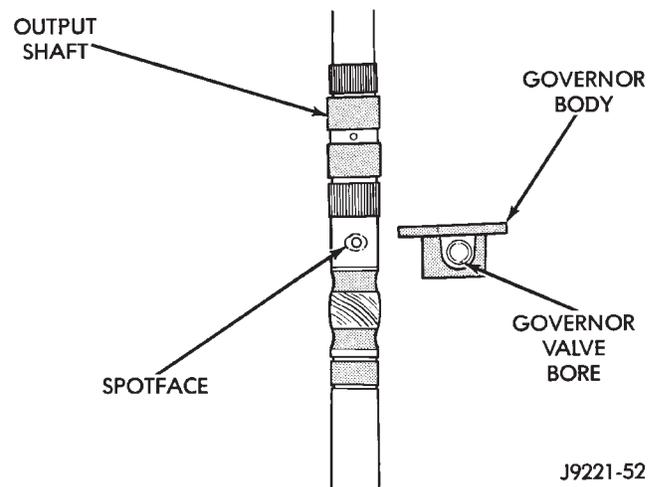

Fig. 136 Governor Valve And Output Shaft Spotface Alignment
- (1) Lubricate governor components and park gear seal rings with transmission fluid.
- (2) Install governor filter in park gear and install governor body on gear. Align governor body on gear using marks made at disassembly.
- (3) Install new seal rings on hub of park gear if necessary. Be sure ring (or rings) with hooked ends are properly connected.
- (4) Install governor weight assembly in governor body. Be sure governor weight snap rings are securely seated.
- (5) Align and install governor/park gear assembly on output shaft as follows:
- (a) **Note that output shaft in current transmission is spotfaced for governor valve end clearance (Fig. 136). Shaft must be indexed so that small end of governor valve will seat in this spotface. Install governor body and park as follows to ensure proper alignment and operation.**
(b) Rotate output shaft until spotface (at governor valve shaft hole) is facing upward (Fig. 136).